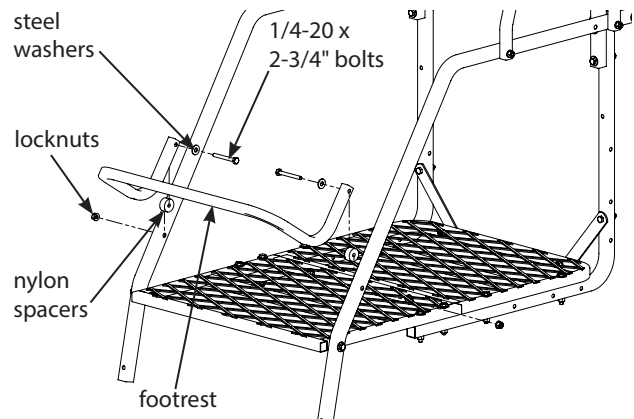

Figure 5
8. Attach footrest (410061) to ladder side rails using (2) provided 1/4-20 x 2-3/4" bolts, locknuts, steel washers and nylon spacers. **SEE FIGURE 5.**